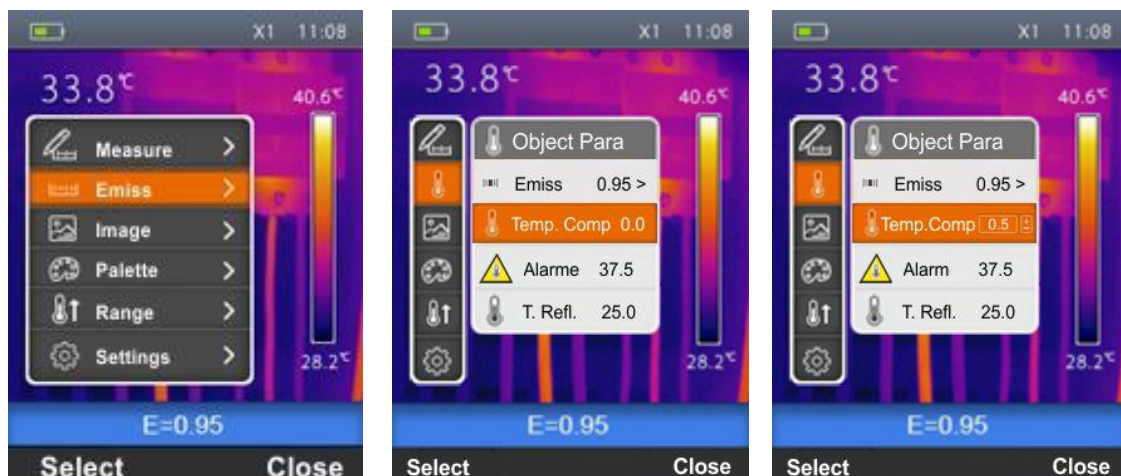

Fig. 19: Setting temperature compensation on the instrument
1. Select the item "Emiss" with the keys $\oplus$ or $\ominus$ and press the key $\Rightarrow$. The screen Fig. 19 – Central part is shown on the display.
2. Use the keys $\oplus$ or $\ominus$ to select the item "Temp.Comp" and press the key "Select". The screen Fig. 19 – Right side is shown on the display